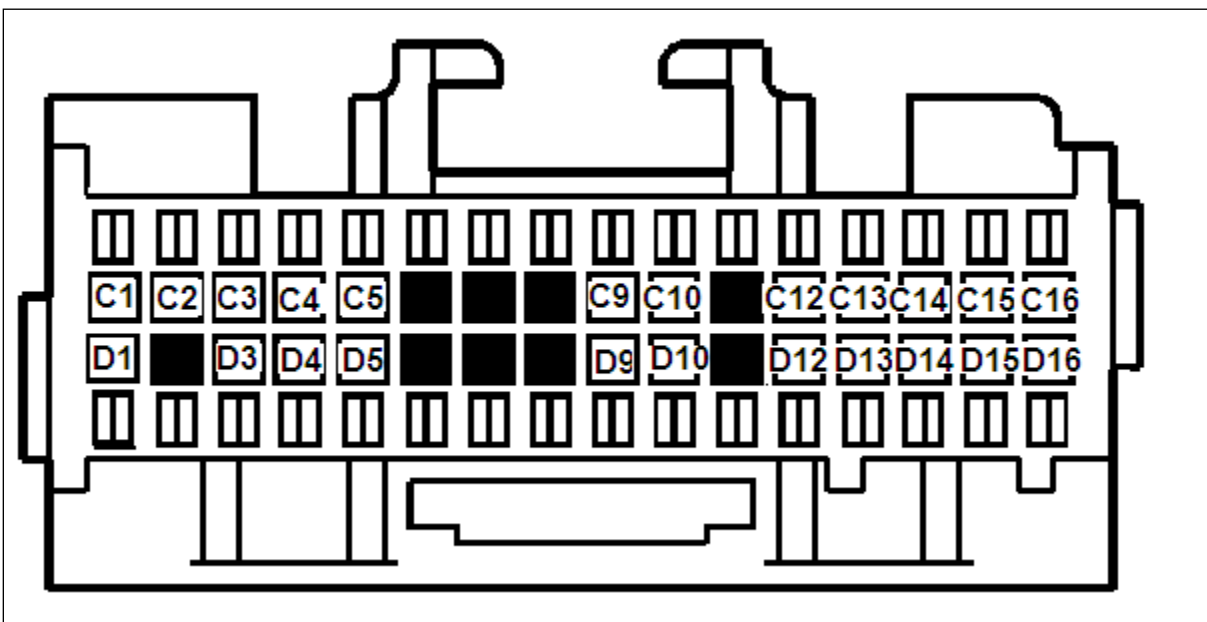

Figure 4- Control box connector.
- ☐ Find the blue 32 pin connector at the control box. (Figure 4)